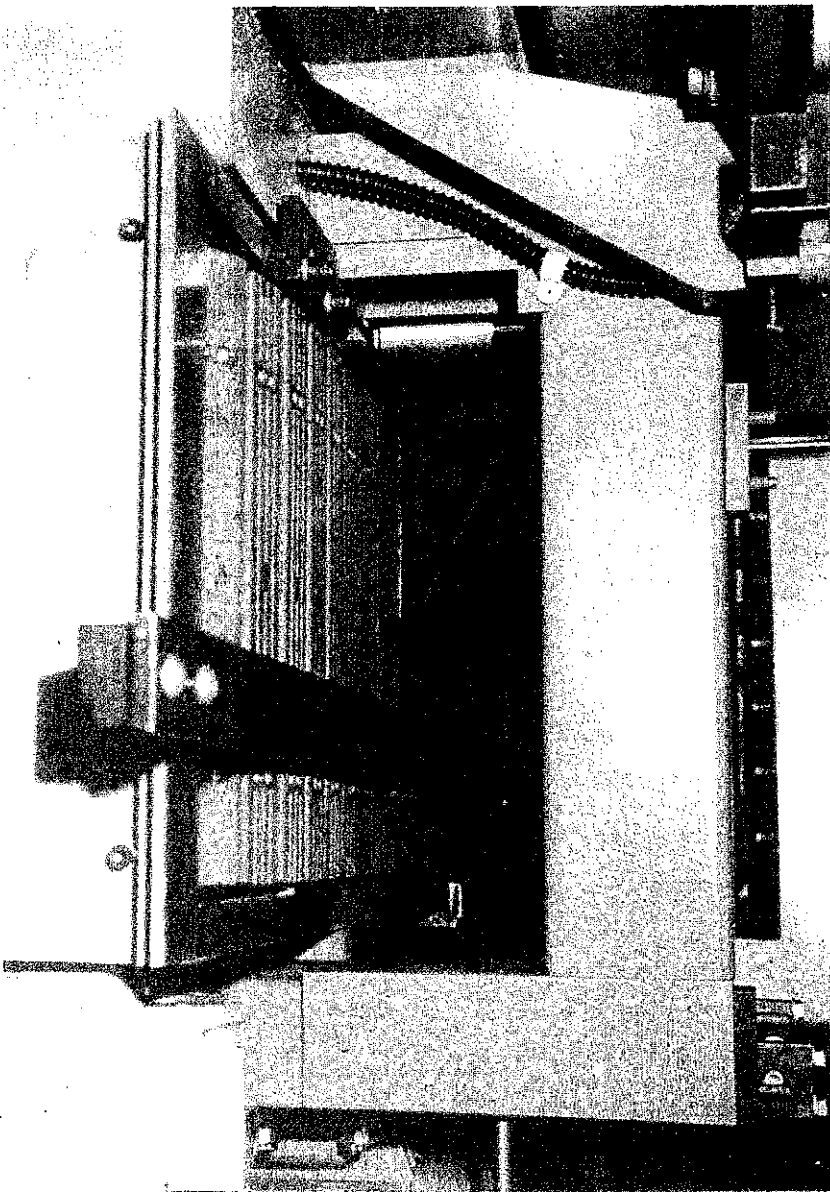

FIG. 39
- g) Place setting device over knife FIG.39. Press setting device firmly down onto thicknesser lag bed and move device until feet locate on cutterblock. Knife is now correctly set at 1mm cutter projection.